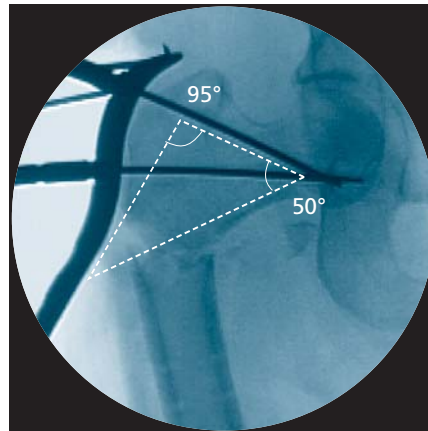

Figure 1
- ① Placement of the proximal guide wire in the AP view is into the midportion of the inferomedial quadrant of the femoral head along a path subtending a 50° angle relative to the calcar femoralis. Guide wire placement in this manner will facilitate placement of the proximal locking screw at a 95° angle to the femoral shaft (Figure 1).